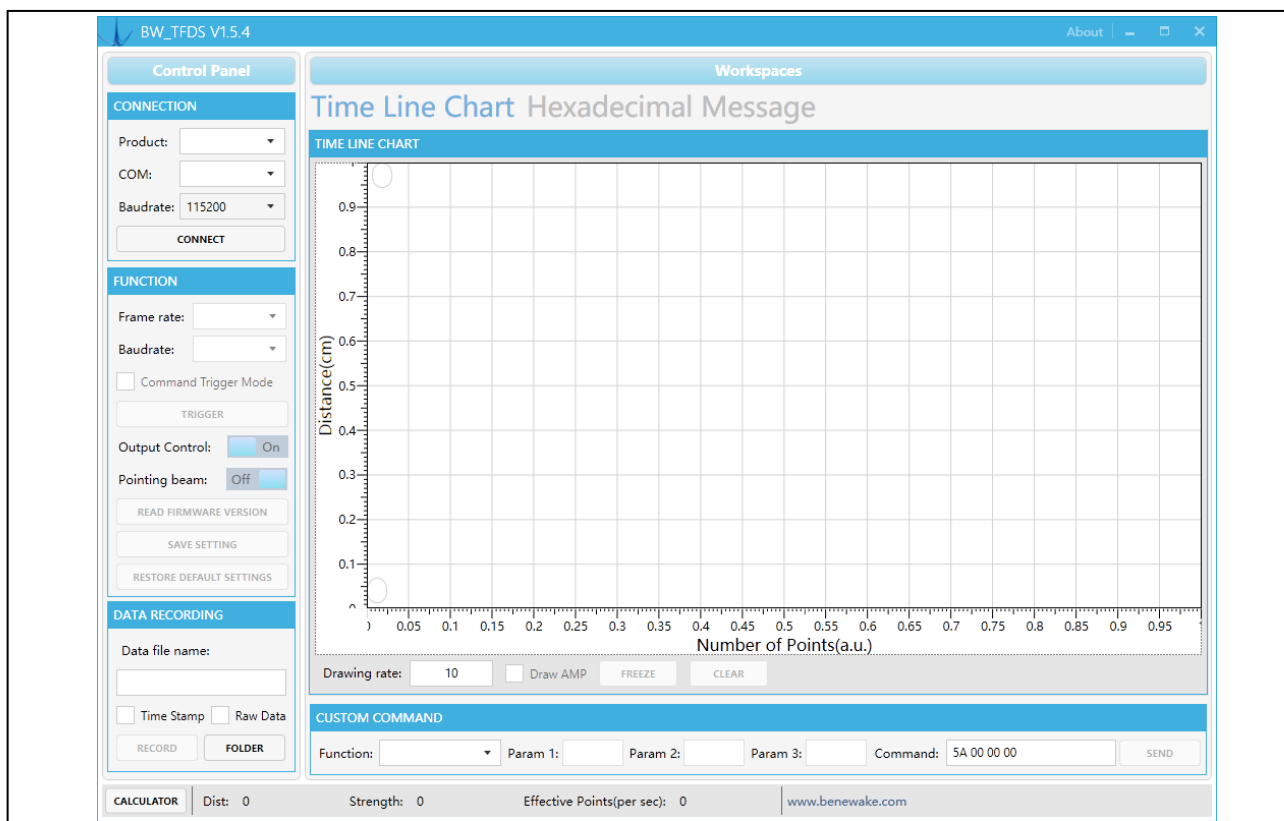

Figure 17 Benewake testing GUI for TF series
- See Figure 17 Benewake testing GUI for TF series of the GUI.